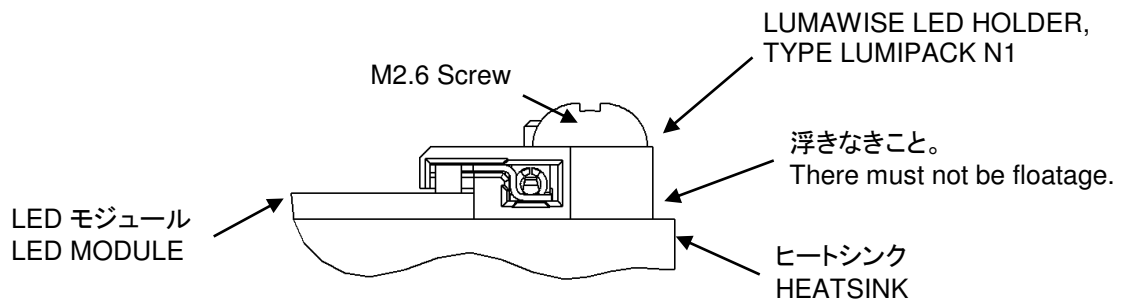

Fig.4
5.1.4 LUMAWISE LED HOLDER, TYPE LUMIPACK N1取付け後、ヒートシンクとLUMAWISE LED HOLDER, TYPE LUMIPACK N1間に浮きがないこと。(Fig.4参照)
5.1.4 After mounting the LUMAWISE LED HOLDER, TYPE LUMIPACK N1, There must not be floatage between the heat sink and LUMAWISE LED HOLDER, TYPE LUMIPACK N1. (ref Fig.4)